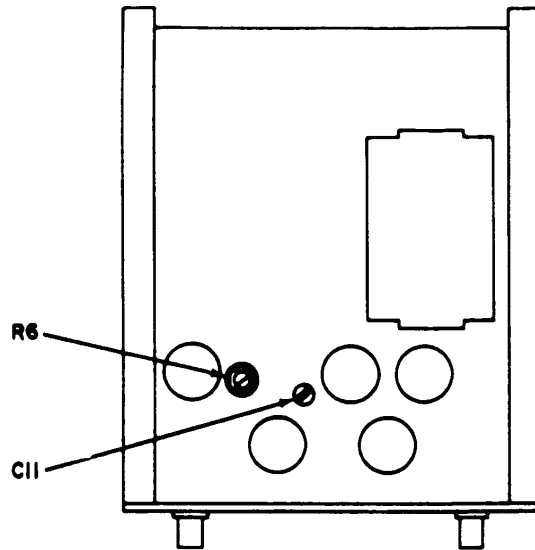

Figure 1. Model 450A.
- (1) Adjust R6 (fig. 1) for a 10-V indication on multimeter (R).
(1) Adjust C11 (fig. 1) for an in-tolerance indication (R).
(2) Adjust function/arbitrary generator output to minimum and repeat a (2) through (7) above.